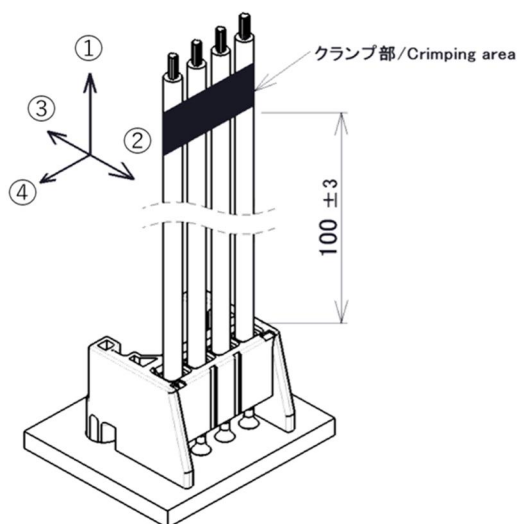

Fig.2 PCB retention force test method
Measure the force required to pull out of the terminal along the pulling direction (Fig.2 ①~④) at a uniform rate of 100 mm/min.